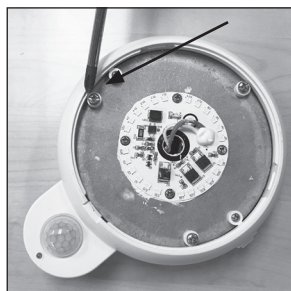
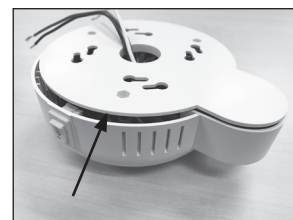

Figure 2A: Remove the Screws that hold the Mounting Base Plate to the Luminaire
Figure 3: Separating the Mounting Base Plate from the Luminaire
2. Now remove the three (3) screws that hold the mounting base plate to the luminaire with a #2 Phillips screwdriver. The screws are approximately 3-inches apart (See Figures 2A, 2B, and 2C). The mounting base plate can then be detached from the luminaire and mounted directly to the junction box. Rotate the mounting base plate (See Figure 3) until the slotted holes are positioned and aligned under the screws on the junction box, then tighten to ensure the mounting base plate is securely fastened to the junction box.